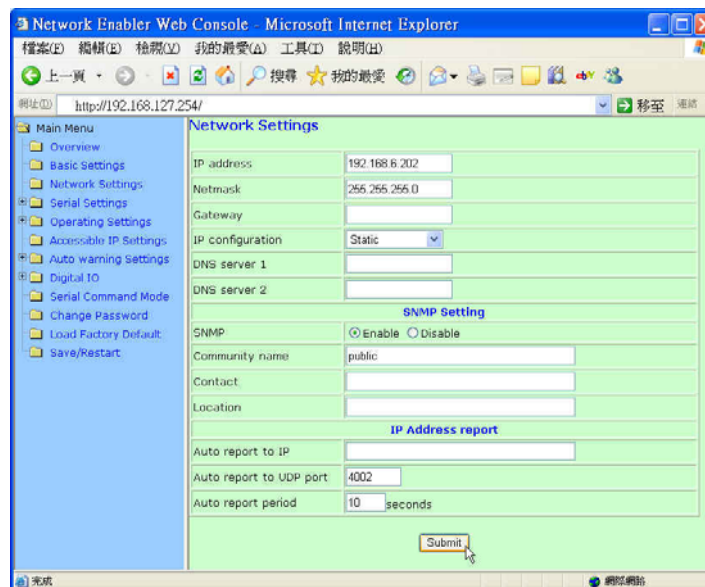

Figure A-2 Change IP to the address to be installed
4. Select **Network Setting** as Figure A-2 shown, change address **192.168.127.254** to address 192.168.6.202 which gotten from step 1 at **IP address** selection. Click **Submit** at the lower of screen and **Save/Restart** on next page to close web browser.